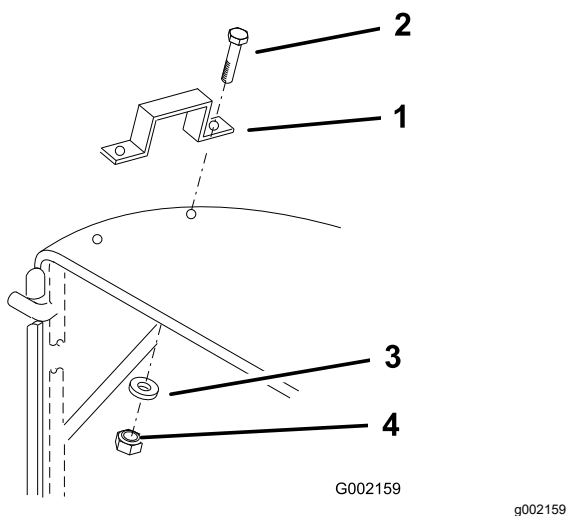

Рисунок 6
5. Push 2 bolts (1/4 x 1 inch) through each handle and the fabric from the outside, and secure them with 4 washers (1/4 inch), and locknuts (1/4 inch) as shown in Рисунок 6.